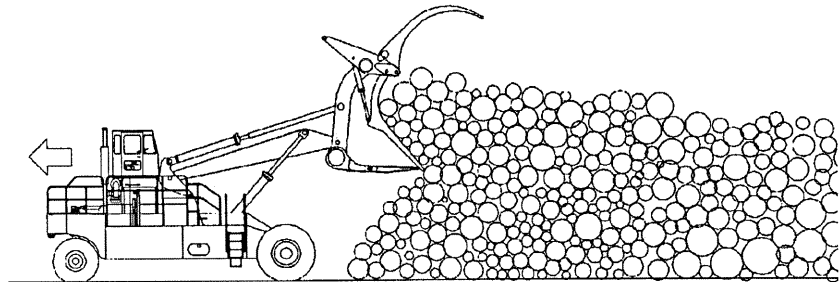

Fig 4-13
3. When the required decking height is reached, push the load off with the kickoff arms and simultaneously lower the carriage and back away slowly. Keep the tines as close to the pile as possible to prevent logs from rolling down in front of the drive tires. See Fig. 4-13